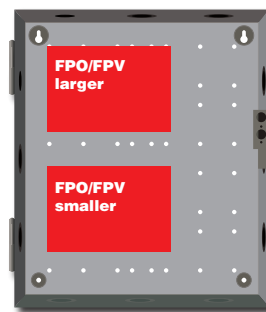

Figure 4
3. When two FPO/FPV boards are installed, the larger shall be located on top (figure 4).